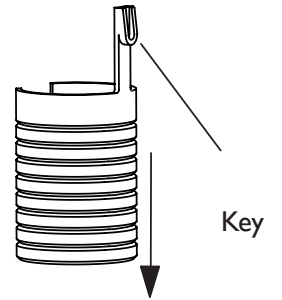

Fig. 5
- Squeeze the saddle height insert and insert it into the top of the seat-tube, aligning the key with the slot (fig. 5)
- Engage the key with the base of the slot (fig. 5)
- Refit the seatpost into the underside of the frame (fig 5), making sure the post is clean